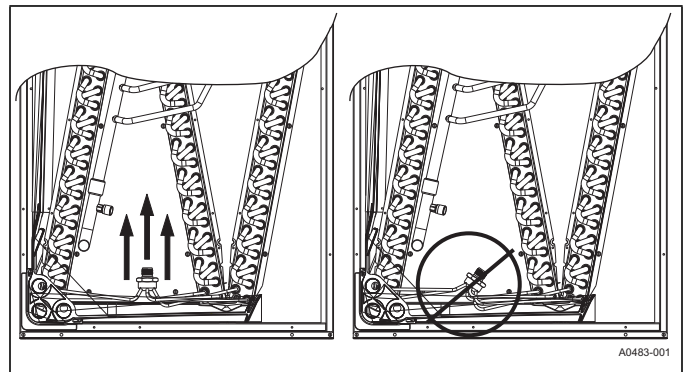

Figure 6: Recommended distributor adjustment
2. Adjust the distributor position to allow the preformed liquid line assembly to correctly line up with the hole in the tubing access panel. Raise the distributor body approximately 2 in. toward the top of the coil or what would be the top of the coil if the coil was in the upflow position. See Figure 6 and adjust as necessary.